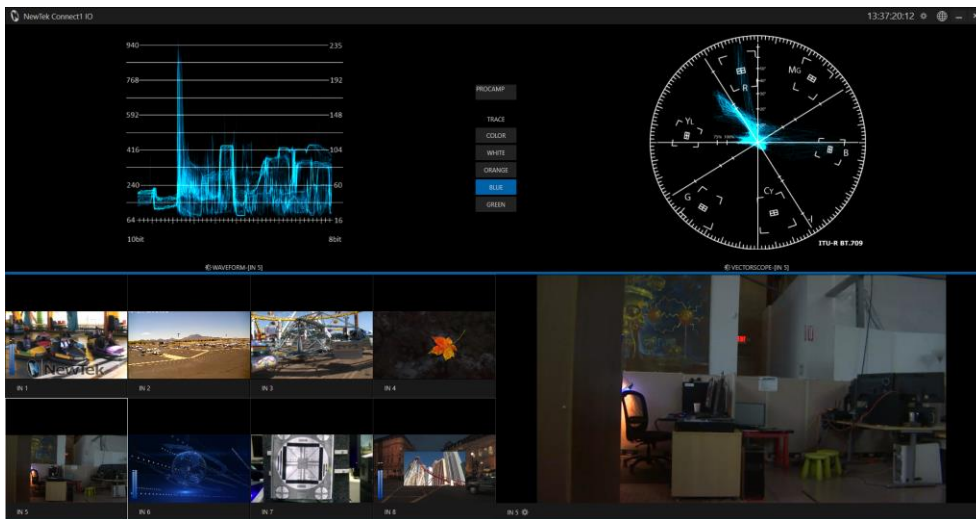

FIGURE 31
*Waveform* and *Vectorscope* features are shown when you select the *SCOPES* option in the *Display* widget (Figure 31).